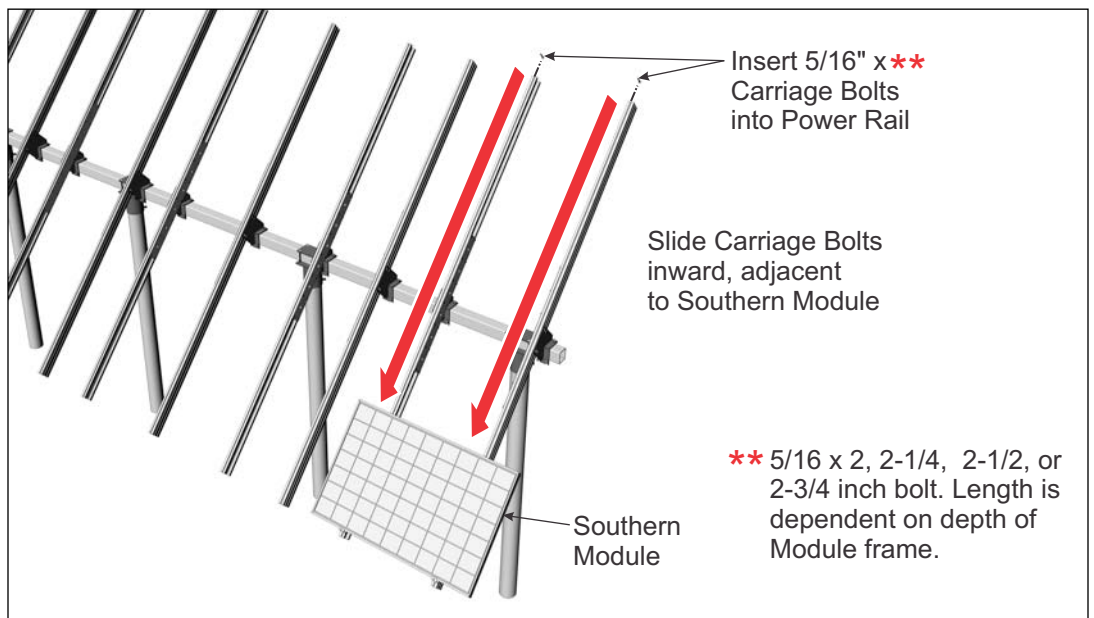

Figure 7-5: Pre-loading Standard Mid Clamp Hardware into Power Rail
- A. Before placing the next in-line Module onto the Power Rails, first pre-load the 5/16" x 2, 2-1/4, 2-1/2, or 2-3/4 inch carriage bolts (bolt length is dependent on depth of Module frame) into the northern end of the Power Rail, sliding the bolts southward adjacent to the previously installed southern Module. (See Figure 7-5)